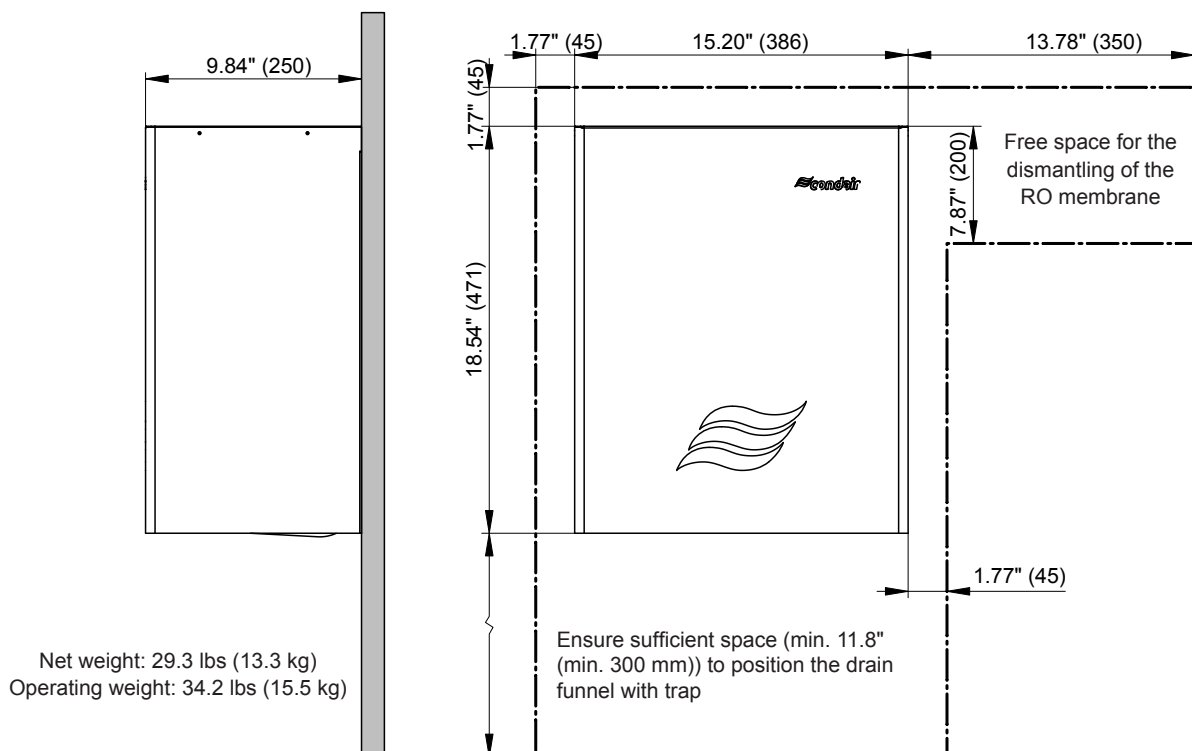
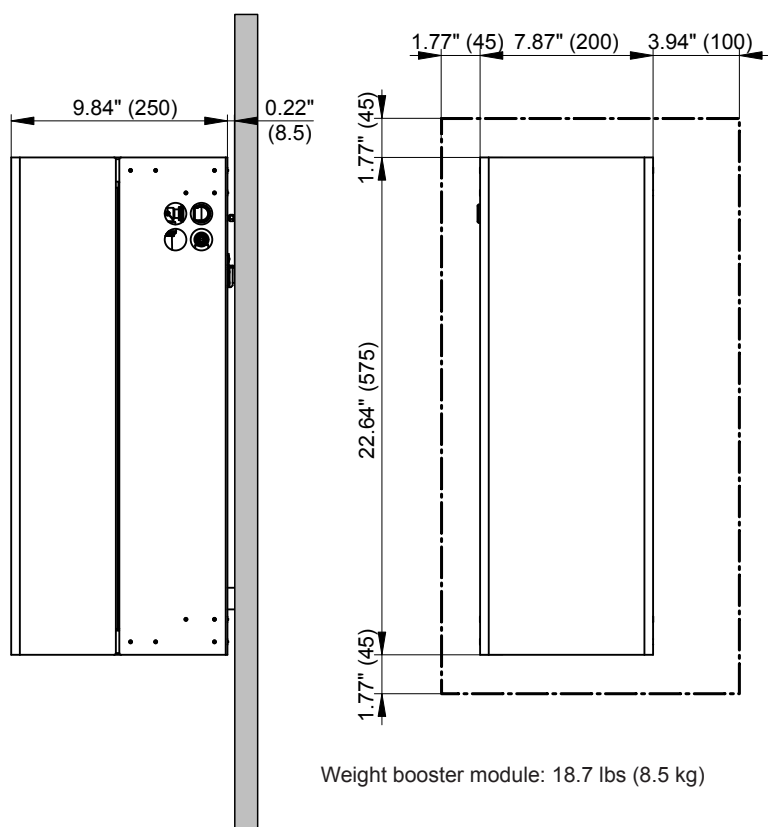
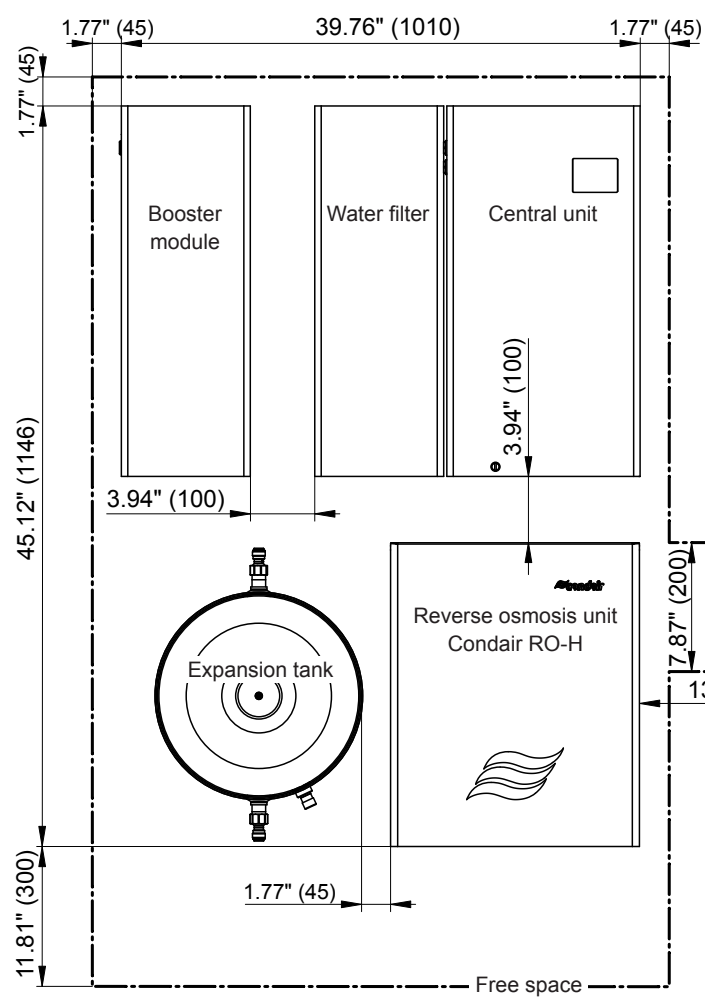

Fig. 9: Dimensions RO-H (dimensions in inch (mm))
Fig. 11: Dimensions booster module (dimensions in inch (mm))
Fig. 14: Placement example 3 (dimensions in inch (mm))
- There must be a sufficiently large free wall space in the room for the installation of the RO-H reverse osmosis unit, the expansion tank and the booster module (see Fig. 9 to Fig. 14).
Important: The wall on which the components of the reverse osmosis system are mounted must have sufficient load-bearing capacity (see weight information in Fig. 9 to Fig. 11) and be suitable for the attachment.